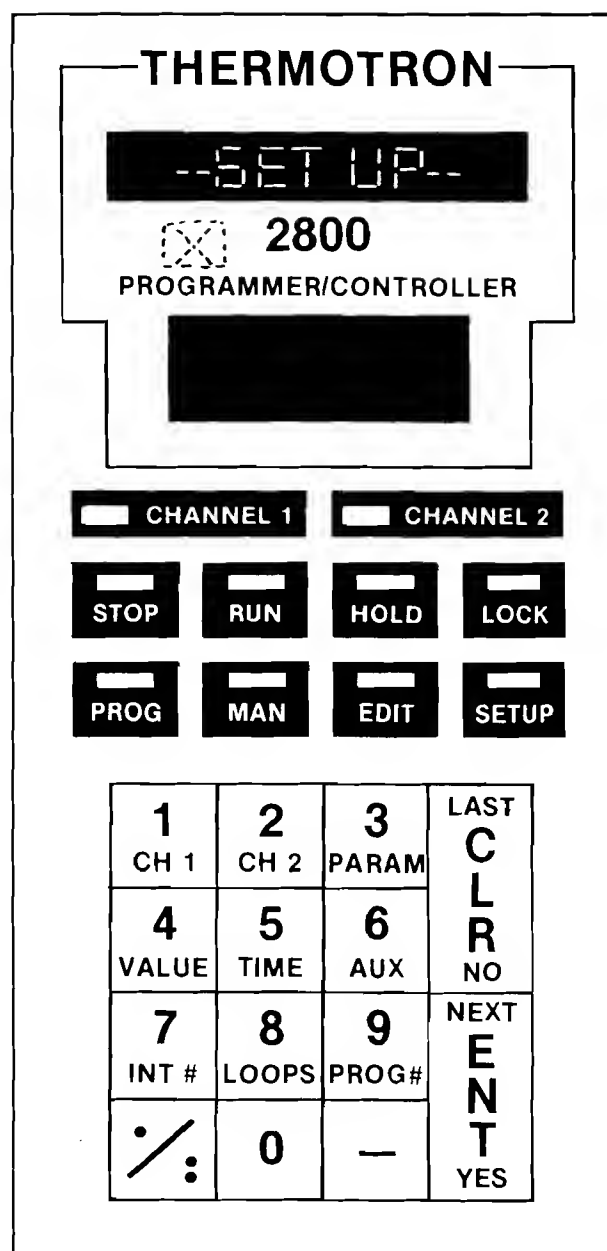

FIGURE 11
1. Press the **SETUP** key. The alpha display shows SETUP. See Figure 11.
2. Press the **X** key hidden above the letters OGRA between the two displays. See Figure 11. The alpha display shows CALIBRATE.